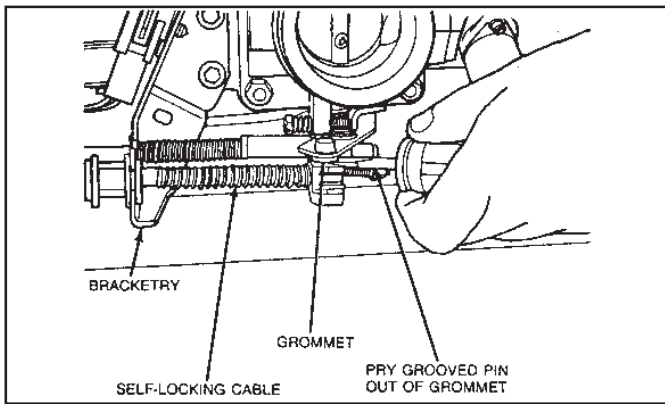

Figure 20
- 6.2 Using a wide-blade screwdriver, pry grooved pin on cable assembly out of grommet on throttle body lever. **(See Fig. 20.)**